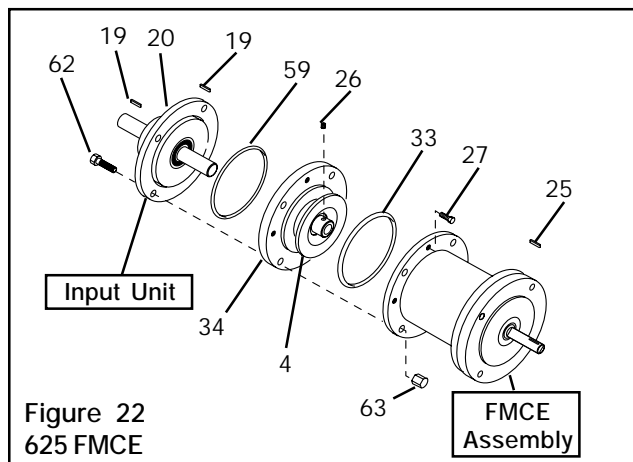

Figure 22
1. Remove the Hex. Head Cap Screws (Item 27) (See Figure 22 for Model 625 FMCE or 23 for Model 875 FMCE).
2. Remove the Female Pilot Assembly (Items 4 and 34), O-ring Seal (Item 33), and the Input Unit from the FMCE (See Figure 22 for Model 625 FMCE or 23 for Model 875 FMCE).
3. Remove the Hex. Head Cap Screws (Item 62) and Hex. Nuts (Item 64) (See Figure 22 for Model 625 FMCE or 23 for Model 875 FMCE).
4. Remove the Set Screw (Item 26) and slide the Female Pilot Assembly off the Input Unit (See Figure 22 for Model 625 FMCE or 23 for Model 875 FMCE).
5. Remove the O-ring Seal (Item 59) (See Figure 22 for Model 625 FMCE or 23 for Model 875 FMCE).